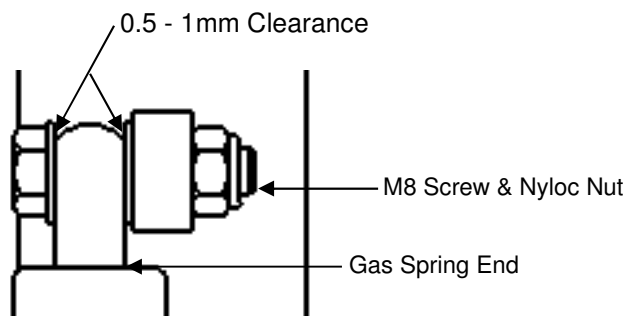

Figure 9.6.4.11 Gas Spring Alignment Clearance
61. Grip the Brake Cable Cable End with pliers and tighten the M4 Nyloc Nut until it contacts the edges of the Brake Arms. If required, prise the Brake Arms apart and activate Brake Lever until the M4 Nyloc Nut "jumps" in between the Brake Arms and locates against the Brake Arm Clevis Pin. See Figure 9.6.4.10.